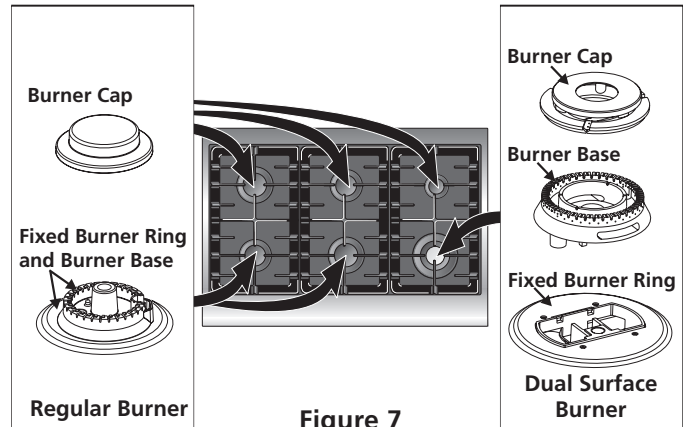
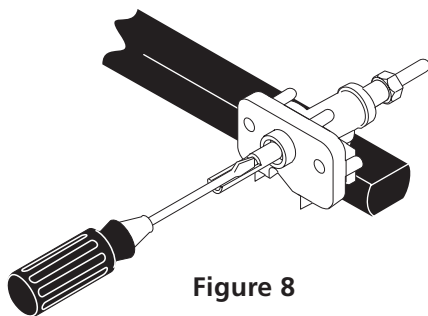
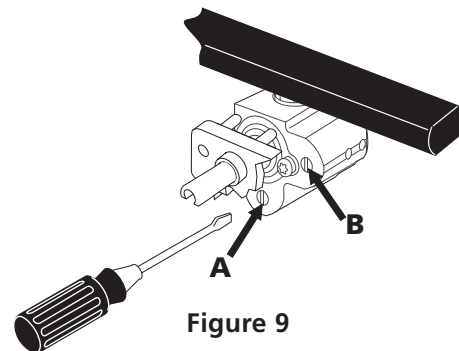

Figure 7
Figure 8
Figure 9
This range is equipped with sealed burners as shown (Figure 7). All pieces are at their place. Take note where they are. **Remove all packaging material located under the Dual Surface burner head.** Make sure the burner is properly aligned and leveled. **NOTE:** There are no burner adjustments necessary on this range.
## 4. Adjust the "LOW" Setting of Regular Burner (see figure 7) on the Surface Burner Valves (Figure 8):
## 5. Adjust the "LOW" Setting of the Dual Burner (see Figure 7) on the Surface Burner Valve (Figure 9):
- The inner portion of the dual burner flame size can be increased or decreased by turning screw **A** (see Figure 9). Use screw **B** to adjust the flame size of the outer portion of the dual burner. Turn counterclockwise the screw to increase flame size. Turn clockwise the screw to decrease flame size. Adjust flame until you can quickly turn knob from LITE to LOWEST POSITION without extinguishing the flame. Flame should be as small as possible without going out.